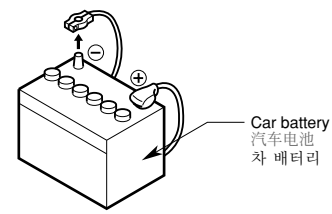

Figure 1 / 图 1 / 그림 1
3. Be sure to disconnect the battery "⊖" terminal before starting. This is to prevent short circuits during installation. (Figure 1)
3. 开始之前请务必断开电池的“⊖”端子, 以免在安装中造成短路。(图1)